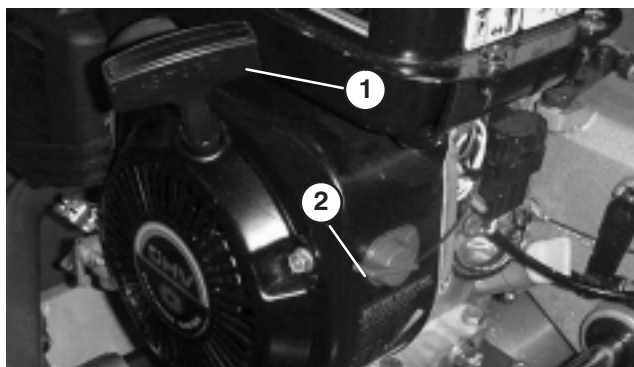

Figure 25
Pull recoil starter handle (Fig. 25) to start engine.
The on/off switch (Fig. 25) is located on rear of engine. Move switch to On position to start engine and Off to stop engine.
3. Move on/off switch (Fig. 25) to On position.